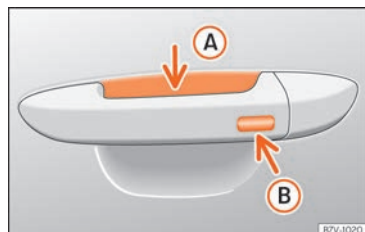

Fig. 51 Driver door handle: sensor surfaces.
»» Fig. 51
- Touch the sensor surface >>> Fig. 51 Ⓑ on the outside of the door handle. All turn signals flash once.
- Within 5 seconds, touch the sensor on the outside of the door handle >>> Fig. 51 Ⓑ once. Do not grip the handle while doing so. This temporarily deactivates the Keyless Access system.
To close all the electric windows using the comfort function, keep a finger on the locking sensor surface >>> Fig. 51 Ⓑ (arrow) of the door handle for a few seconds until the windows have closed.